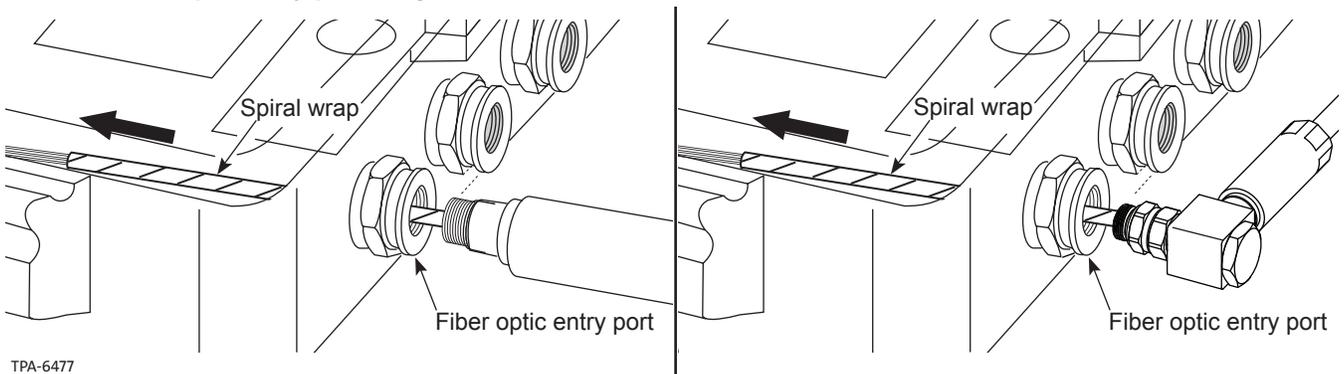

Figure 5
**Step 6:** Continue feeding the connectorized leads through the port until the spiral wrap passes through the fiber optic entry point (Figure 5).